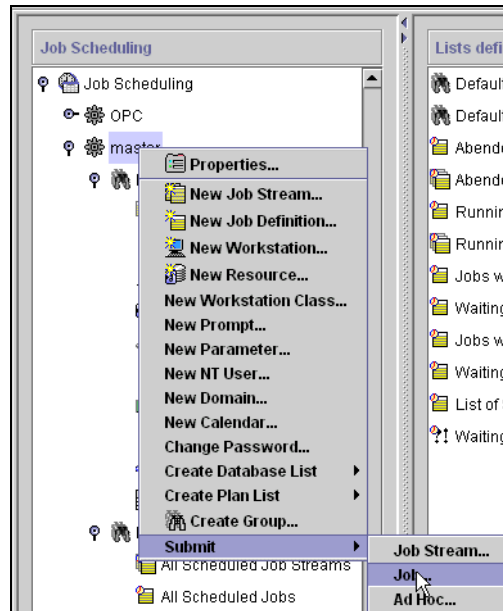

Figure 141. Submit job from TWS
6. Select the **TWS Master**, right click, and select **Submit->Job** as shown in Figure 141.